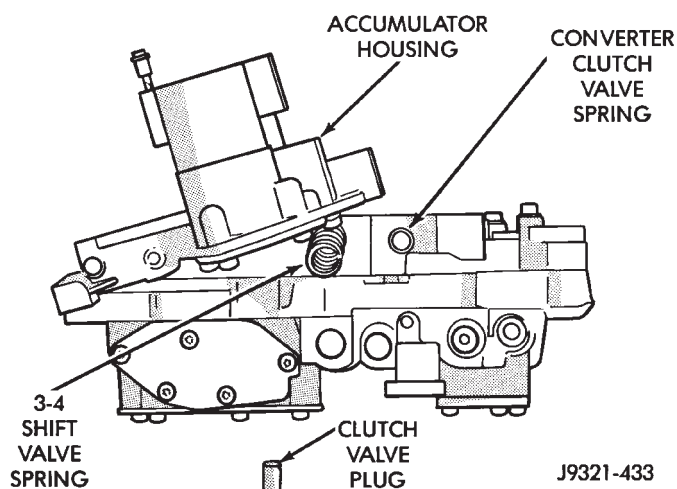

Fig. 109 Removing 3-4 Shift And Converter Clutch Valve Springs And Plug
(21) Carefully rotate 3-4 accumulator housing upward and remove 3-4 shift valve spring and converter clutch valve plug and spring (Fig. 109).